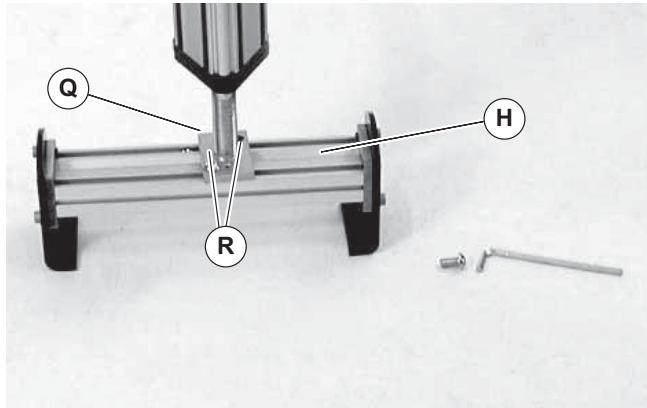

Figure 8
- Align the screw holes (Figure 8, item R) of the stand top screw end plate (Q) with the hex nuts in the t-slots in the crossmember tube (H).
11. To center the conveyor mounting bracket (Figure 8, item H), position the “Attach Here” sticker (Figure 9, item T) with the end plate (S) of the stand top screw assembly.